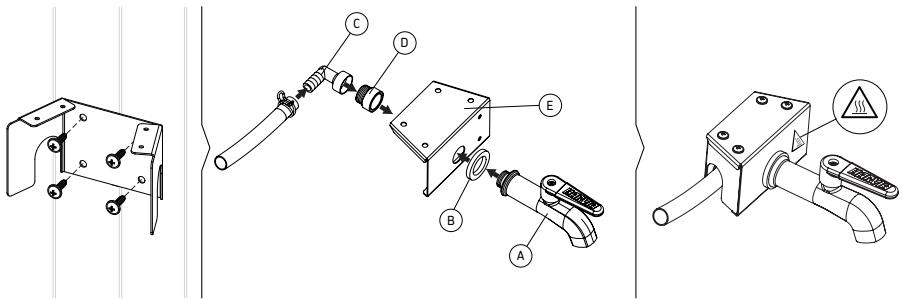

Figure 4.
A. To the wooden walls with a wall mounting clamp and a faucet clamp (Figure 4.)
2. Attach faucet (A), seal (B), clip (C), faucet extension (D) and faucet clamp (E) together, seal to the faucet side